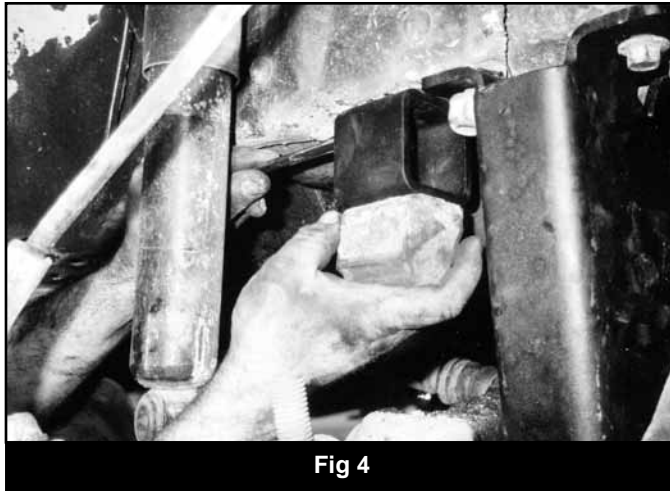

Fig 4
8. Remove the existing OE bump stops. Attach each bump stop drop bracket to the frame with 1 - 3/8 x 1" bolt, nut and washers. Attach the bump stop to the drop bracket using the OE stud. (Fig. 4)